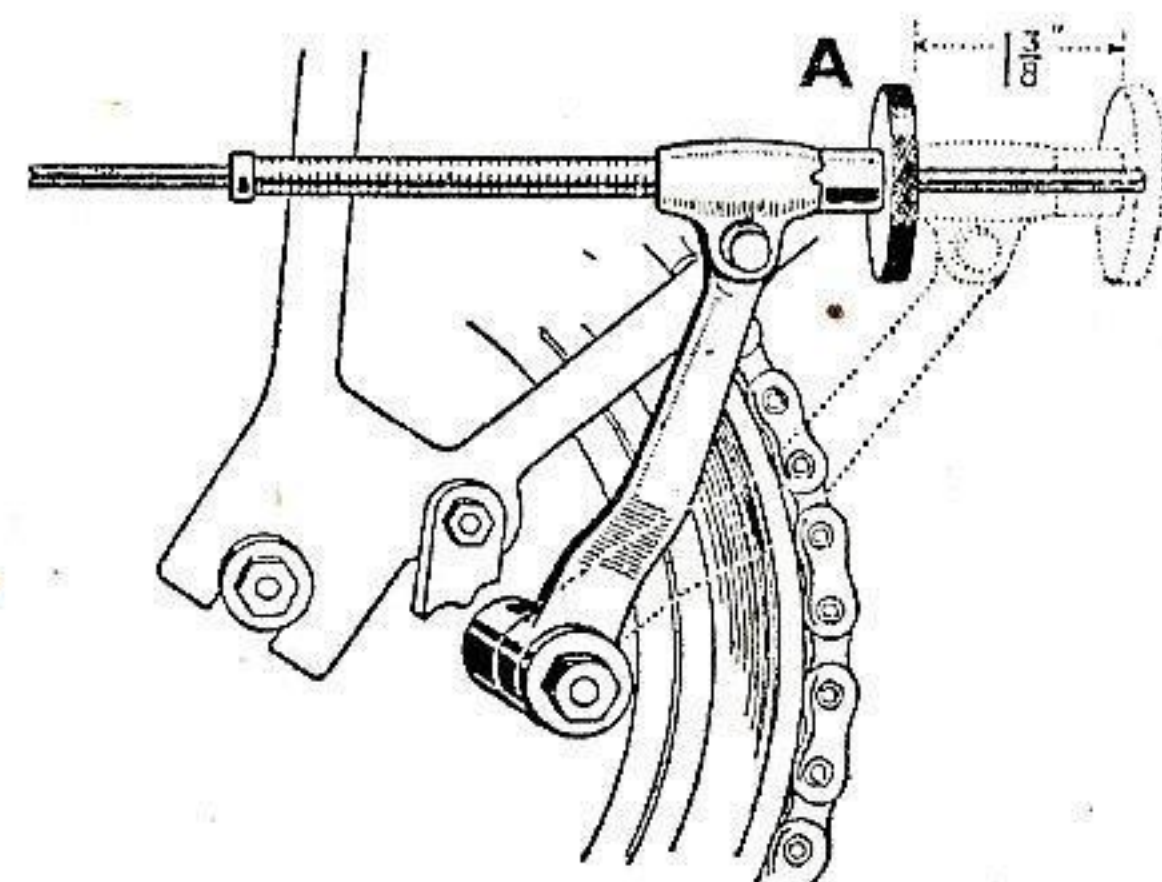

FIG. 77. SHOWING (EXHAUSTED) BRAKE ROD ADJUSTMENT ON 1945-8 MODELS
To effect a minor adjustment of the rear brake to compensate for slight wear of the brake shoe linings, first place the A.J.S. on its rear stand. Then to take up slackness in the operation, screw the knurled adjuster nut shown at (A) in Fig. 77 further on the brake rod until it is felt that the brake shoe linings are just contacting the rear brake drum when the wheel is turned. Afterwards unscrew the adjuster nut (A) *two complete turns*.
If the minor rear brake adjustment described above does not prove effective due to exhaustion of the brake rod adjustment (see Fig. 77), it is necessary to effect a major adjustment by means of the thrust collars or pins on the ends of the brake shoes, as described below.